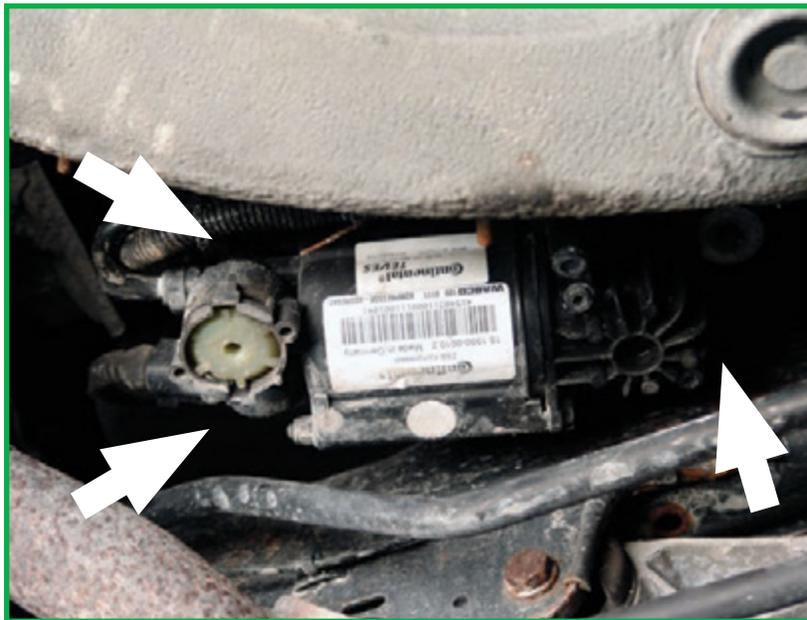

FIGURE 4
4. The compressor is held on with three (3) nuts, one on each isolator. Isolators will be reused on the new assembly. (Figure 4)